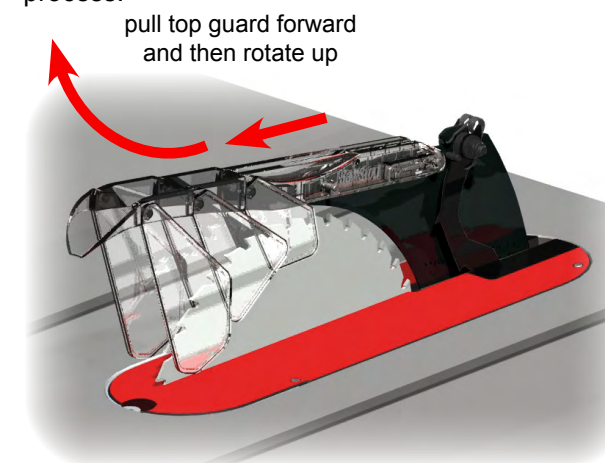
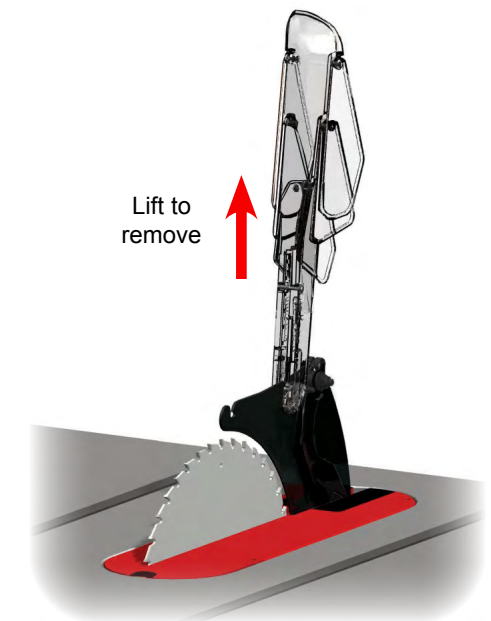

Fig. 54
Fig. 55
The top guard can be placed in an upright position so that you can change the blade without removing the guard. Pull the top guard forward and then up, as shown in Fig. 54, to release it from the front of the spreader. The top guard may then be placed in an upright position, balanced against the spreader, as shown in Fig. 55. Once upright, the top guard may be removed from the spreader by lifting it up vertically as shown in Fig. 55. To reinstall the top guard in the spreader, reverse the process.
**WARNING!** Use the blade guard for every operation for which it can be used, including all through-sawing. Note that since the spreader extends above the top of the blade it cannot be used as a riving knife, even if the top guard and the anti-kickback pawls are removed, as shown in Fig. 55 and 57).